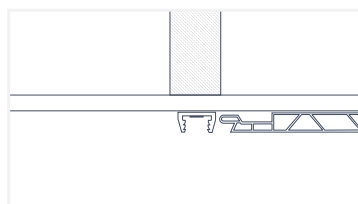

Fig. 34
6. Insert the U Channel base piece (from the H Channel Snap-In Kit) along the groove side of the panel (Fig. 34).